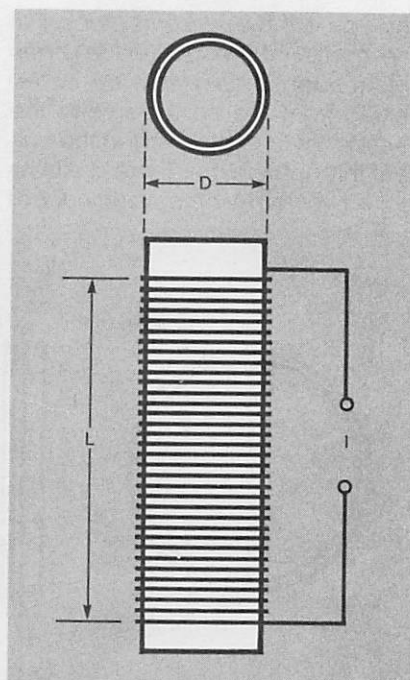

Fig. 9. To calibrate the FGM devices, a solenoid-wound coil like this one could be used.
Figure 9 shows a solenoid-wound coil: a coil that is wound on a cylindrical form in which the length of the coil (L) is greater than or equal